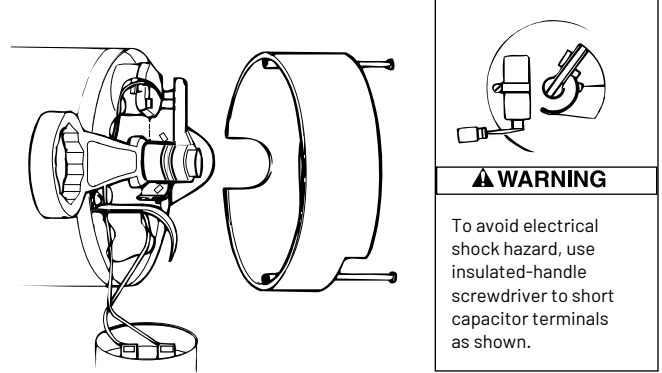

Figure 16 – Hold Shaft
4. If impeller must be replaced, loosen two machine screws and remove motor canopy (Figure 16).
5. **⚠ WARNING Capacitor voltage may be hazardous.** To discharge capacitor, hold insulated handle screwdriver **BY THE HANDLE** and short capacitor terminals together (Figure 16). Do not touch metal screwdriver blade or capacitor terminals. If in doubt, consult a qualified electrician.